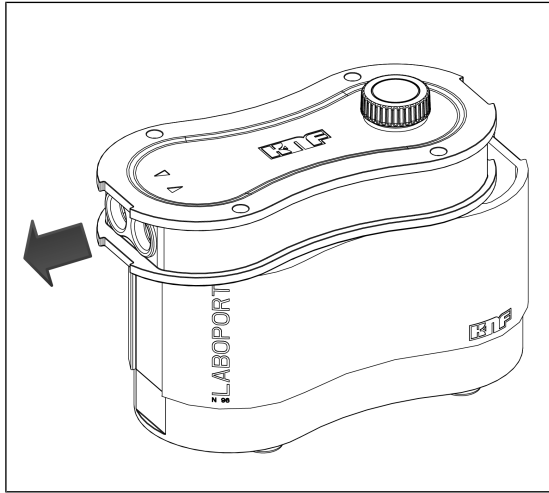

Fig.9: Pushing housing cover over gas connections (open pump)
2. Push the housing cover (2) over the gas connections (see Fig. 9).